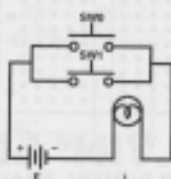

Fig. 11, Electrical Circuit Comparison
7. Repeat Steps 4 and 5 for the next two AND Gates and for Pins 8-9, 10-11, and 12-13 (see Figure 11).
**Procedure – Refer to Figures 11, 12 and 13 for the following instructions.**